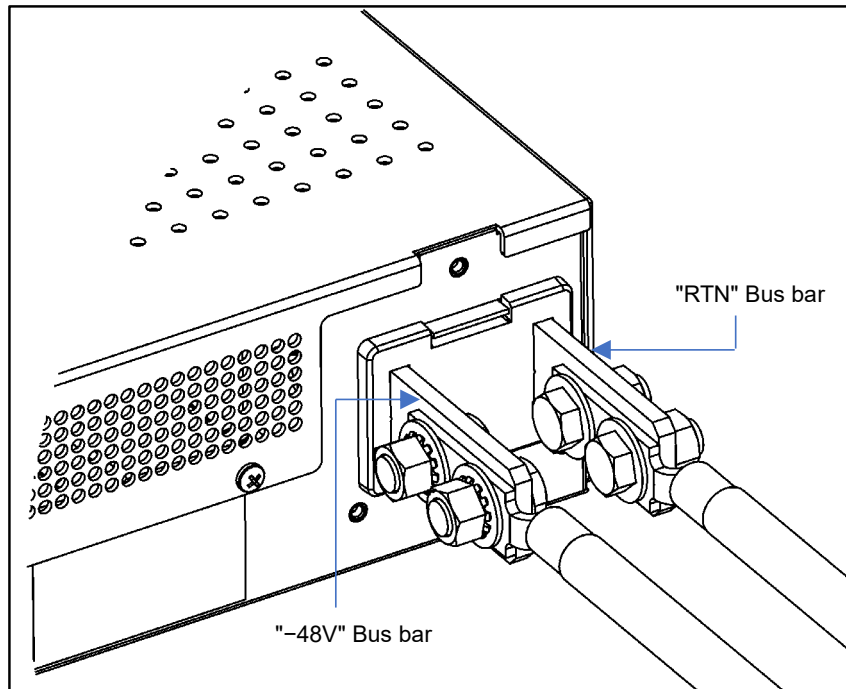

Figure 4. Input Connections
- b. Insert the supplied bolts into the lug connectors then securely fasten (facing outwards) to Bus A "RTN" bus bar with supplied hardware (see Figure 4).
- Ensure that the breakers are in the correct orientation when inserting into the breaker openings — the breaker switch must be on the bottom side of the unit as shown in Figure 4. Failure to insert the breakers correctly may damage the unit and any devices connected to them.